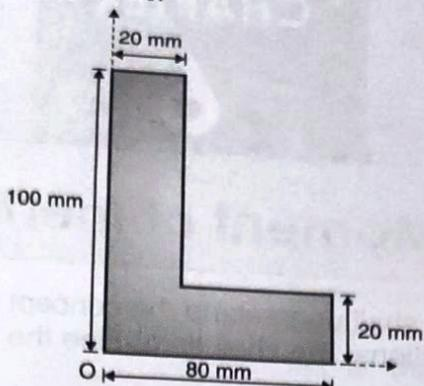

Fig. Q. 13
Q. 13 Find the centroid of the lamina shown in Fig. Q. 13.